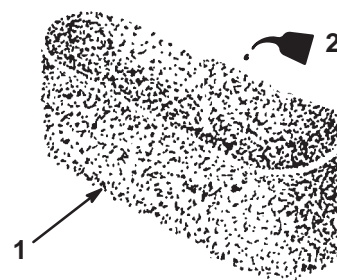

Figure 25
- C. Put one or two ounces of oil on the element (Fig. 25). Squeeze the element to distribute the oil.